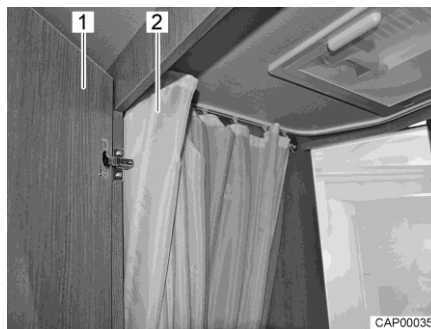

Fig. 103 Toilet compartment with shower
- For showering, close the door (Fig. 103,1) and completely close the shower curtain (Fig. 103,2) so that all walls are protected.